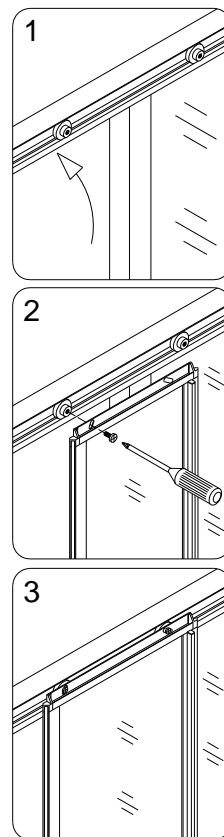

Fig 7
10. Put two **Wheel assemblies (20)** into the groove of the upper guide rail; then locate the **Glass door (07)** to the position. Secure it using **Bolt M5x8 (21)**. See Fig 7 for details.